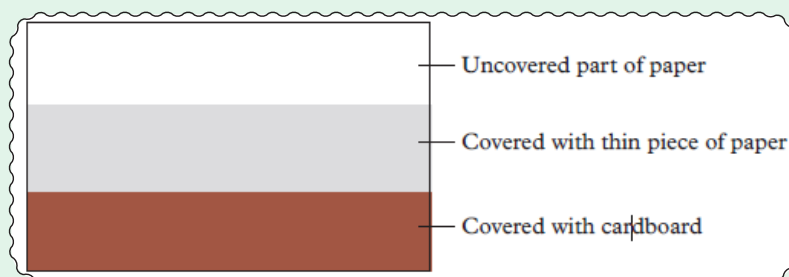

Figure 5.2.6: Experimental set up for determining the effect of light on silver bromide
3. Cover the lower part of the paper with card board as shown in the fig 5.2.6